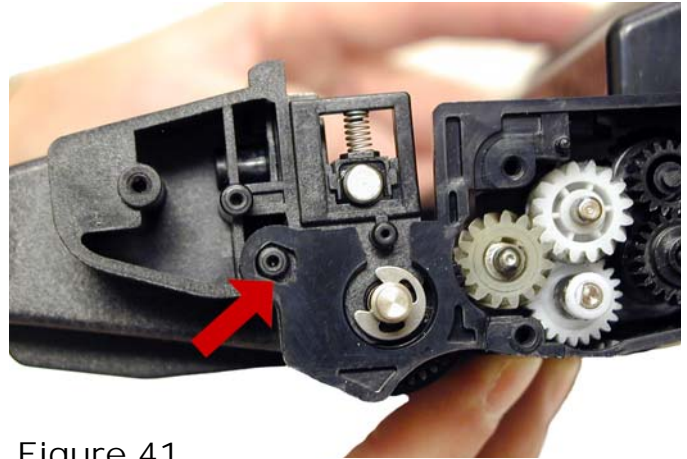

Figure 41
38) Install the waste hopper on to the supply chamber. Make sure that the tabs on both sides lock into place on the side wall. See **Figures 41 & 42**